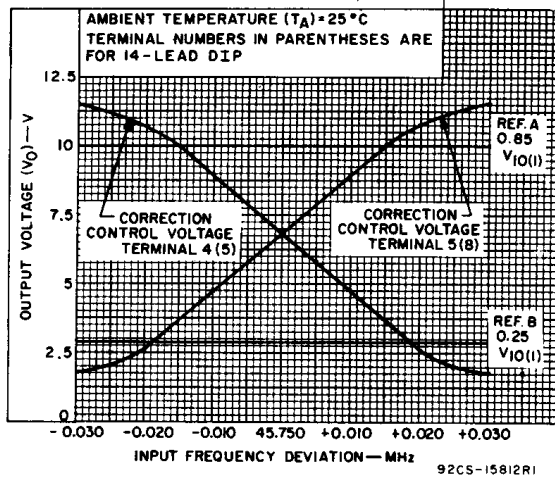
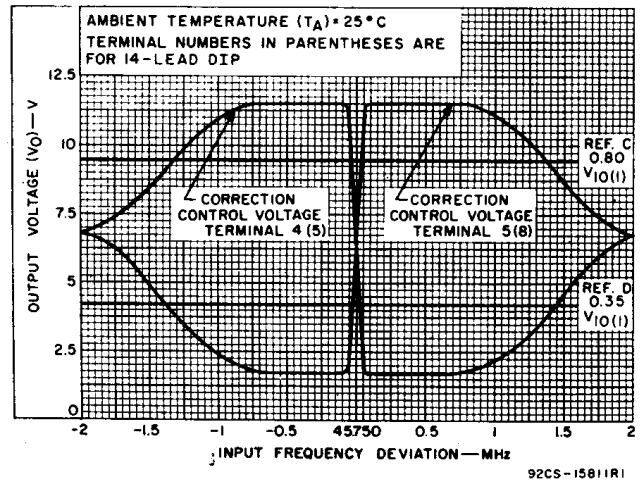

Fig. 6 – Typical narrow-band dynamic control voltage characteristics.
Fig. 7 – Typical wide-band dynamic control voltage characteristics.
Figures 5, 6, and 7 show the control voltages generated at terminals 4(5) and 5(8) of the Integrated Circuit as a function of the frequency deviation from the nominal center frequency. Figure 6 shows the region within 30 kHz of the center frequency while Figure 7 covers the entire bandwidth of the system. The horizontal reference lines on the figures are generated by a voltage divider connected between the power